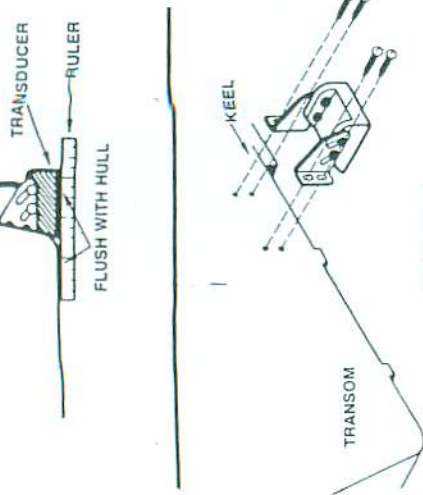

FIGURE 4
Refer to Figure 4 and mount both transducer mounting brackets to the transom with the wood screws included with the transducer. Adjust the transducer so the face is flush with the bottom of the boat and tight against the transom.
1. Loosen the four screws holding the transducer to the mounting bracket and rotate the transducer slightly forward so that it is at a slight angle to the bottom of the boat rather than flush with the hull as shown in figure 4. Retighten the mounting screws and check again for high speed operation.